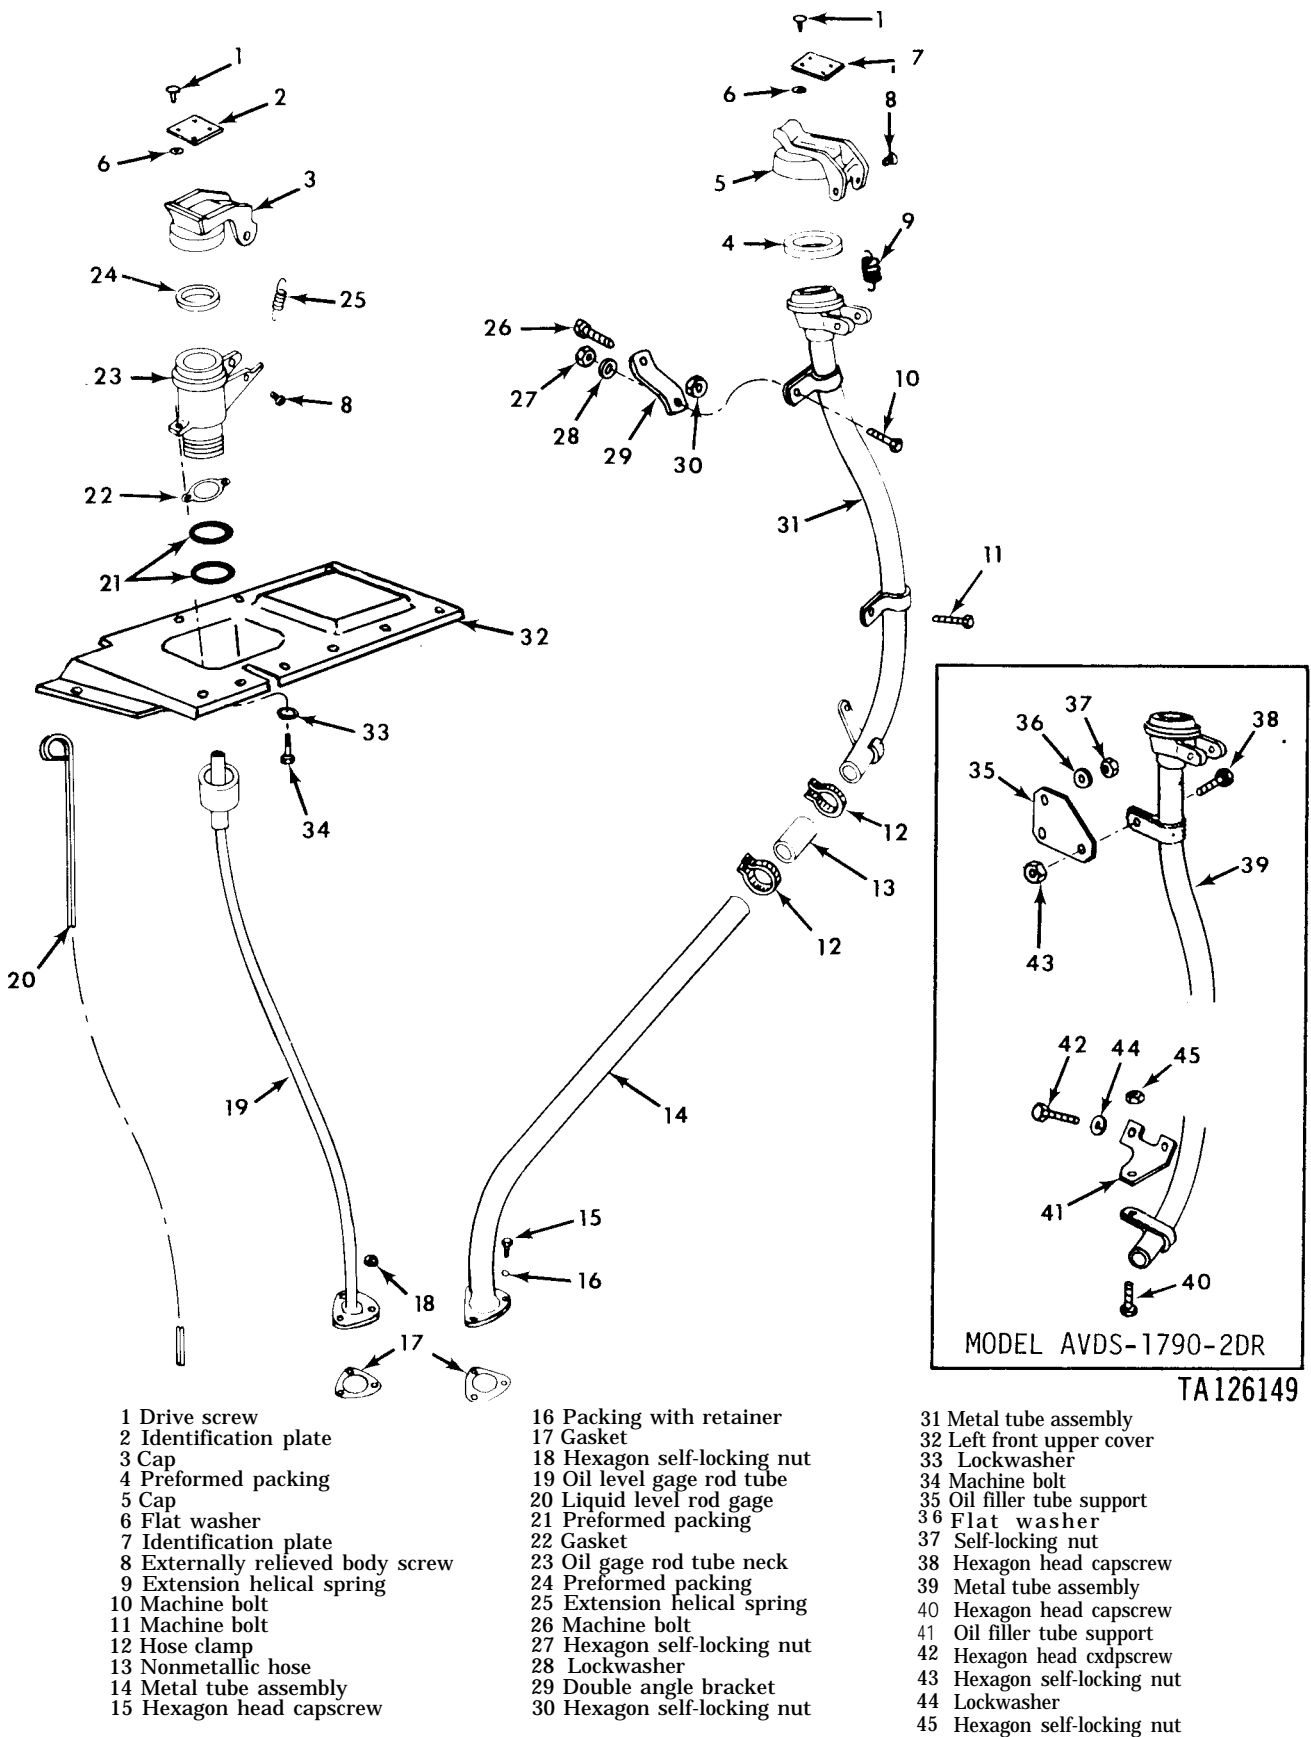

Figure 3-275. Oil filler and oil level indicator tubes and associated parts - exploded view.
(1) Remove oil filler tube extension helical spring (9, fig. 3-275). Do not remove two externally relieved body screws (8) unless inspection (para 3-126c) indicates replacement is necessary. Screws are staked in place. Remove and discard oil filler cap preformed packing (4).
(2) Remove two machine bolts (34) securing assembled oil gage cap to left front upper cover (32) and remove assembled oil gage cap cover. Remove and discard oil level indicator neck gasket (22). Remove and discard two oil level indicator neck preformed packings (21). Remove oil gage tube helical extension spring (25). Remove and discard oil level indicator tube cap preformed packing (24). Do not remove two externally relieved screws (8) unless inspection (para 3-126c) indicates replacement is necessary. Bolts are staked in place.
c. Inspect externally relieved screws (6 and 32, figure 3-275) for looseness or damaged shoulder area.
(1) If necessary, install two new externally relieved body screws (8, fig. 3-275) and stake in place. Install oil level indicator tube cap preformed packing. Install extension helical spring. Install two new preformed packings (21) on oil gage rod tube neck (23). Using a new gasket (22), install assembled oil gage cap on left front upper cover (32) and secure with two machine bolts (33).
(2) Install new oil filler cap preformed packing (4) in oil filler tube cap (5). If necessary, install two new externally relieved body screws (8) and stake in place. Install oil filler tube cap extension helical spring (9).